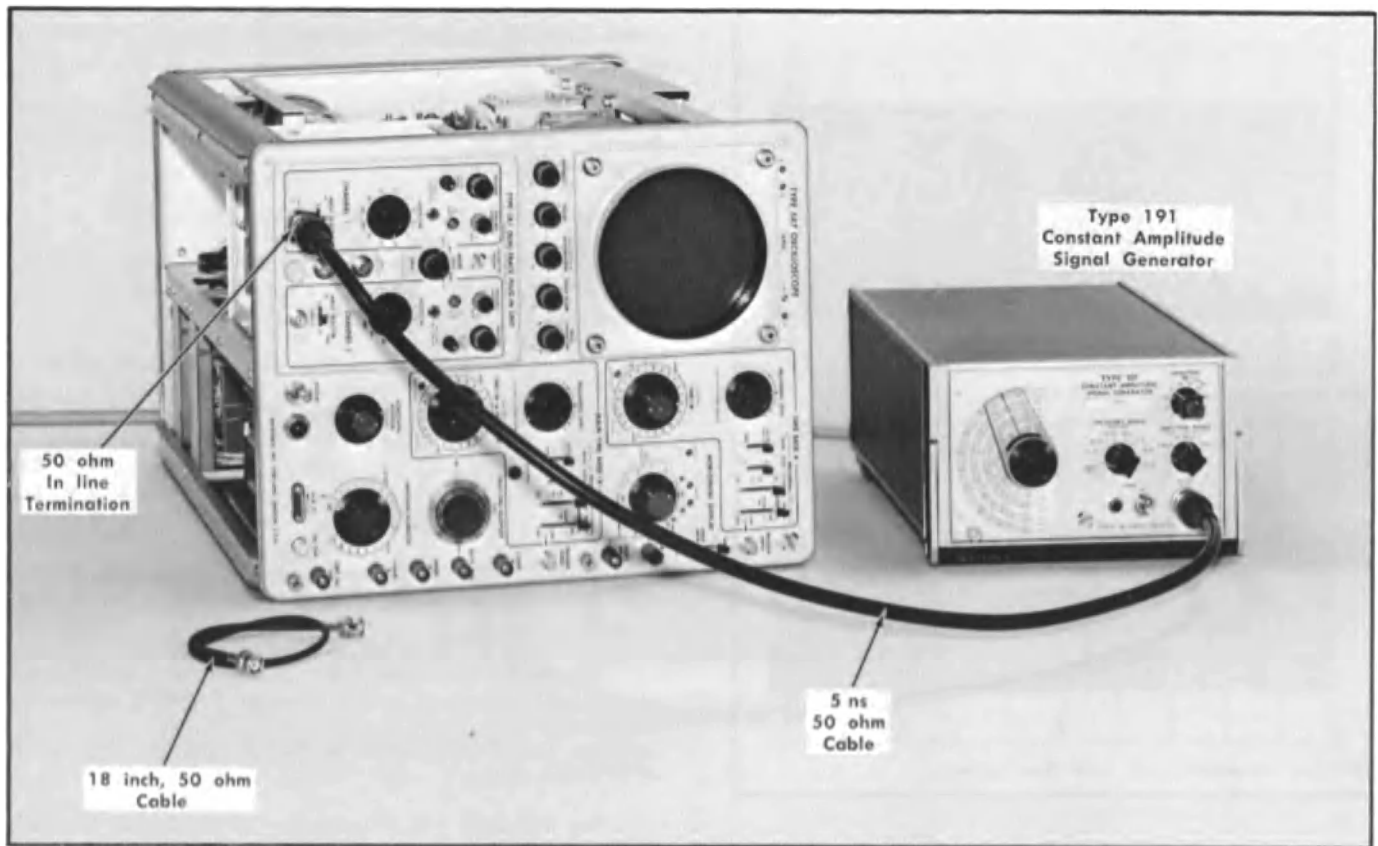

Fig. 7-34. Test equipment setup for steps 24 and 25.
a. Test equipment setup, with connections made at completion of step 24c, is shown in Fig. 7-34.
c. Apply the 50-kHz reference signal from the Type 191 Output connector through a 5-ns cable and a 50-ohm in-line termination to the Type 1A1 Channel 1 INPUT connector (see Fig. 7-34).
a. Test equipment setup is similar to that shown in Fig. 7-34.